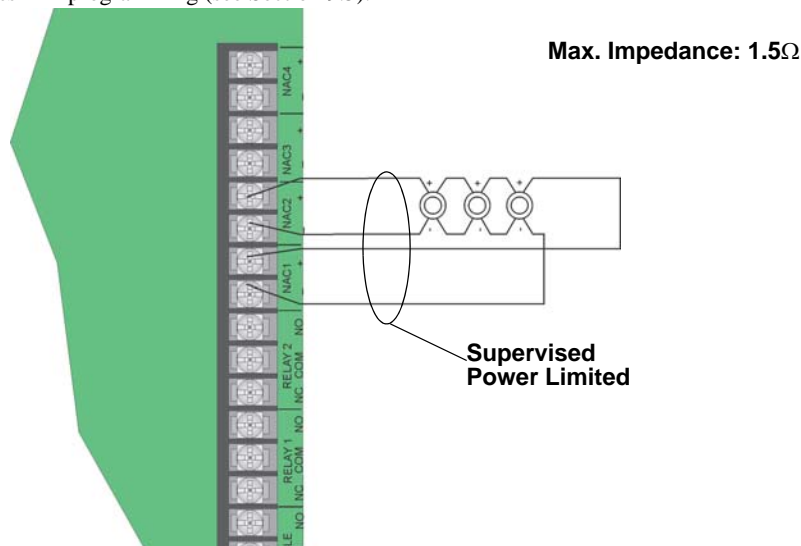

Figure 4.41 Class A Notification Appliance Circuit Configuration
1. Wire the Class A notification appliances as shown in Figure 4.41.